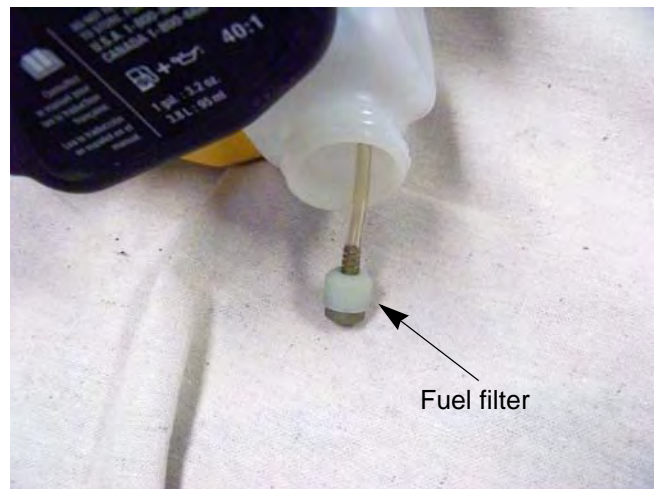

Figure 2.7
3. Stick the hook end of the wire into the fuel tank and fish out the fuel filter. See Figure 2.7.